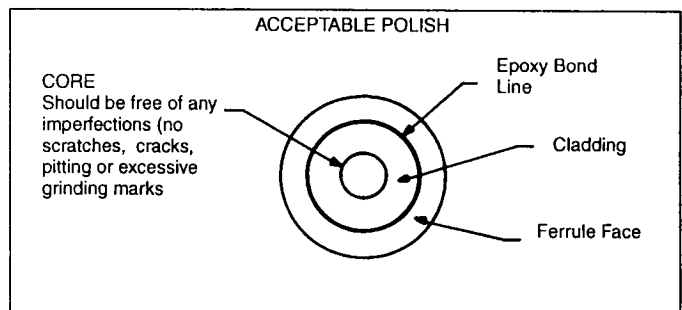

Figure 1
23. Polish terminus until an optically acceptable fiber end has been produced, approximately 1 minute. (See Figure 1). If a small amount of epoxy is on the polished surface, continue polishing until no epoxy can be seen with the naked eye. Inspect end of the optical fiber for desired finish by examining it with the Fibroscope\* portable microscope or other microscope. Repeat polishing if required.
28. Using a circular motion of approx. 2 inches in diameter, polish terminus on 1 micron lapping film backed by a smooth hard surface, approximately 40-50 seconds. If a small amount of epoxy is on the polished surface, continue polishing until no epoxy can be seen with the naked eye. Inspect end of the optical fiber for desired finish using a microscope ( See Figure 1). Repeat for other termini. (For an exceptionally fine finish, continue polishing terminus for 20-30 seconds using .3 micron lapping film. Thoroughly clean termini before proceeding with this step).